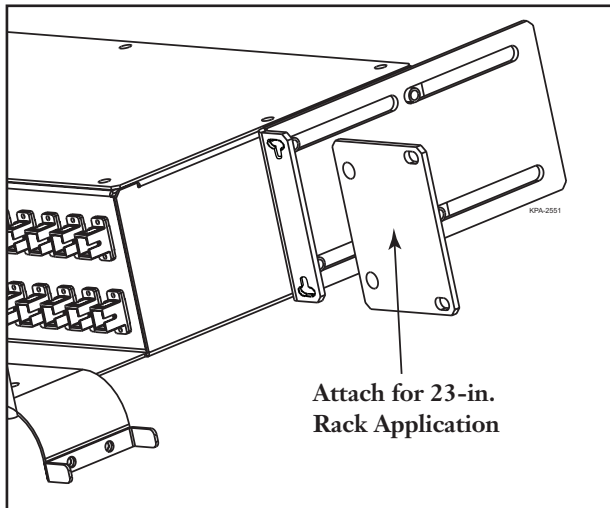

Figure 3
5.1 Mount the ECS directly onto the equipment rack. Use the 23" rack adapter brackets if mounting to a 23" equipment rack (Figure 3). If using a rack which is threaded for 12-24 screws, the threaded clips are not required and may be discarded. If the rack is threaded for screws other than 12-24 screws, use the screws supplied with the rack.